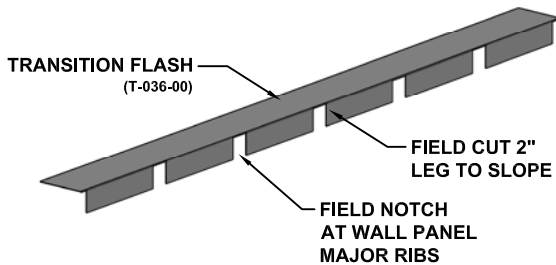

FIGURE 13
4. Transition Flashing (T-036-00), 2" x 4" angle flashing, 2" leg down, 4" leg over the roof panel. Push the flashing to the wall and mark a vertical lines on the 2" leg on each side of the major ribs. Notch the 2" leg as in **Figure 13**. Trim off any part of 2" leg that interferes with the horizontal channel.